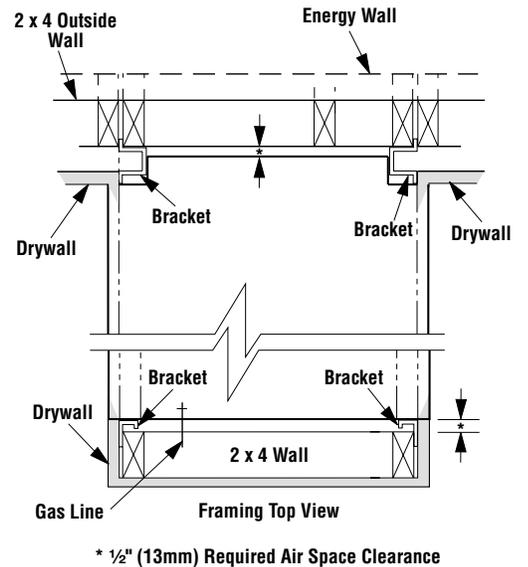

Figure 5
Step 3. Remove the nailing flanges from the lower control compartment and install in place with three (3) screws each. Align with the three holes on each side of the appliance (refer to Figure 5).